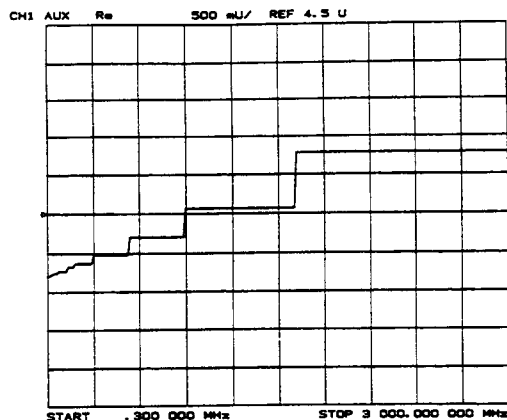

Figure 6. 1V/GHz at Analog Bus Node 16 with Source PLL Off.
2. Compare the waveform to Figure 6. If the waveform is incorrect, the A11 phase lock assembly is faulty.